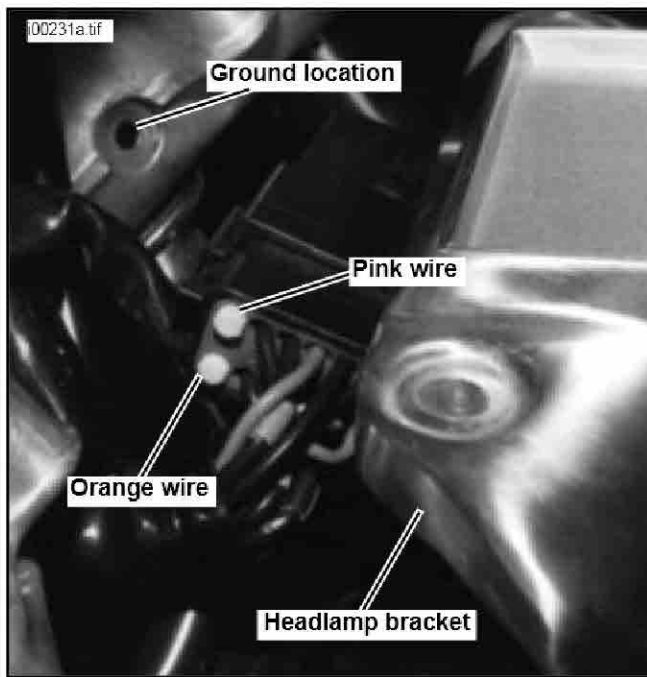

Figure 6A. Tachometer Connection - 1994 and Later
- On 1994 models.** See Figure 6A. After all wires are in place, reinstall the orange secondary lock in the pin housing.
- 1994 models only.** See Figure 6A. Locate the sheet metal screw and lockwasher from kit and ground ring terminal from tachometer into the hole in upper left triple clamp.